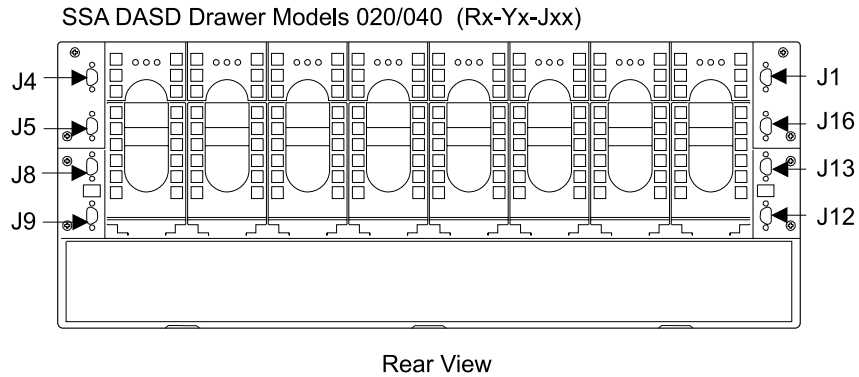

Figure 144. 7133 SSA Connector Locations (S007651I)
- ___ 5. Attach a label to **each** SSA cable that connects to a 7133 drawer. The label only needs to list the drawer *Jx* connector that the SSA cable plugs into. Refer to Figure 144.